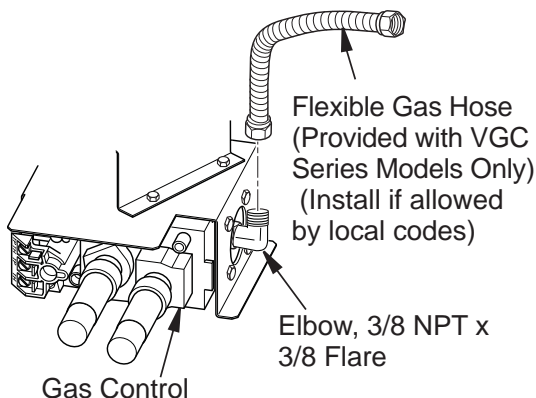

Figure 11 - Attaching Flexible Gas Hose to Appliance Gas Regulator
1. Apply pipe joint sealant lightly to male threads of the 1/2 NPT side of gas fitting elbow (provided) and connect to inlet side of gas control. Remove gas fitting from flexible gas hose (provided) before connecting to elbow (see **Figure 11**).
4. Disconnect gas line from appliance base as shown in Figure 11, Page 13.